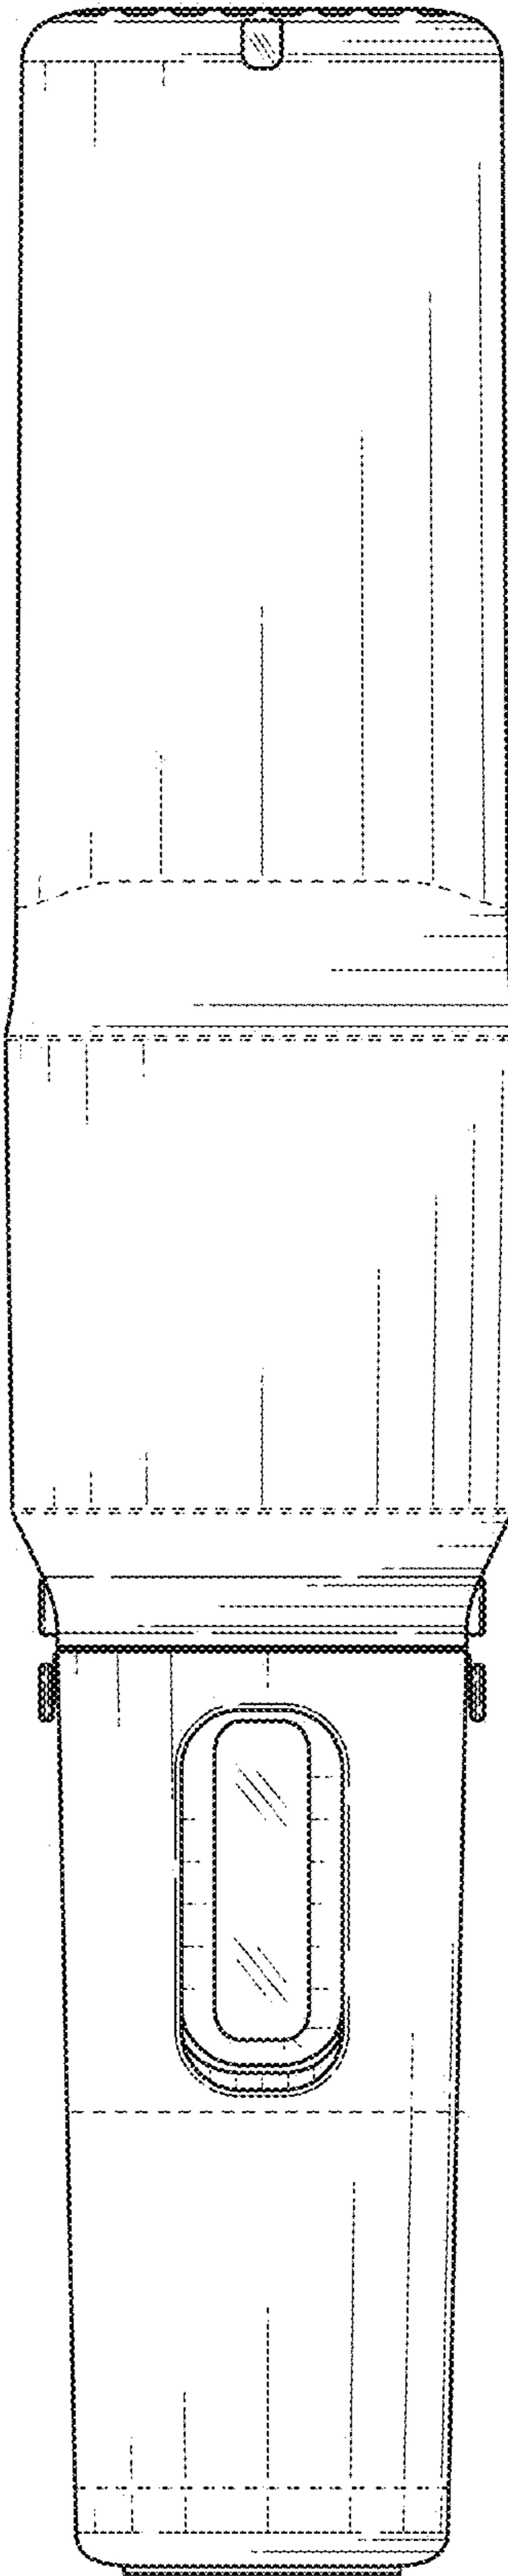

FIG. 2
- FIG. 2 is a top elevation view thereof;